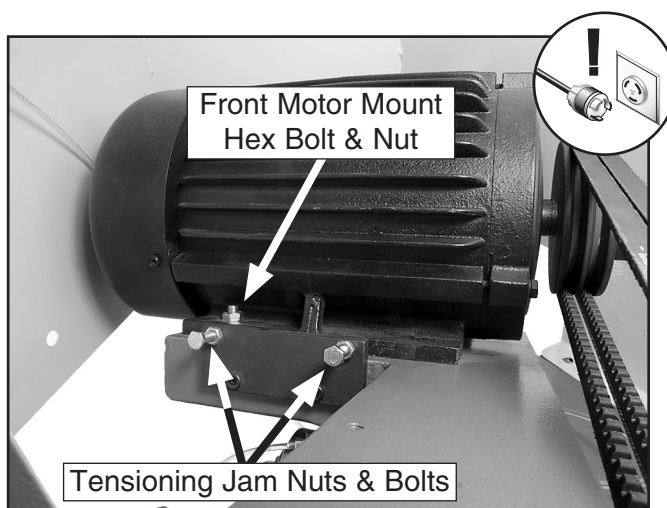

Figure 43. V-belt tensioning bolts.
- Use a 13mm wrench to loosen the front motor mount hex bolt (see **Figure 43**).